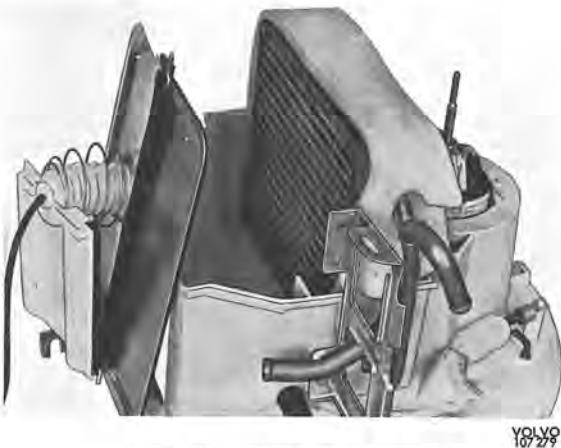

Fig. 8-63. Placing cell assembly
3. Remove the air intake left shutter shaft locking (2).
4. Undo the screws (3) for the inner end and lift off the end.
5. Undo the screws for the fan motor retainer (4).
8. Place the new cell assembly with insulation in position in the right half of the central unit (Fig. 8-63).